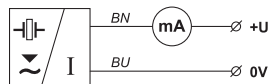

Fig. 25: Connection diagram of the RIL330 level meter (variant -I)
The RIL330 level meter or ULS sensor with a B or H type cable gland are connected to processing (display) units by means a fixed of PVC cable 5 m long. PG 11 (B) or plastic bushings with a thread for protective hoses (H) can be used as a cable gland. Connection diagrams are shown in Fig. 25, 26, 27, 28 and 29.